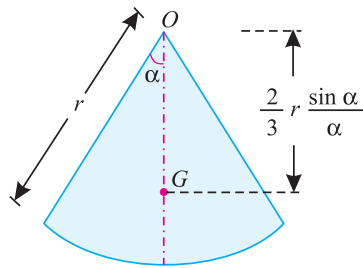

Fig. 6.5. Circular sector
6. The centre of gravity of a circular sector making semi-vertical angle  $\alpha$  is at a distance of  $\frac{2r}{3} \frac{\sin \alpha}{\alpha}$  from the centre of the sector measured along the central axis as shown in Fig. 6.5.